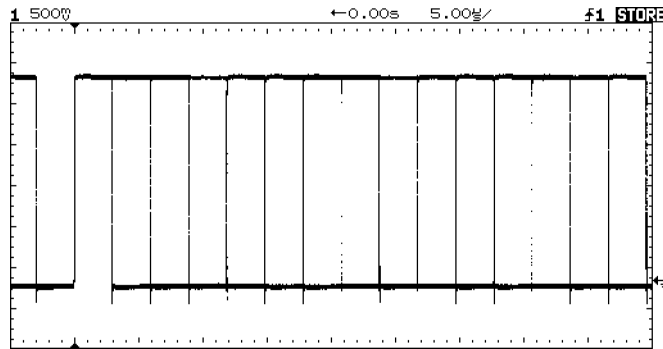
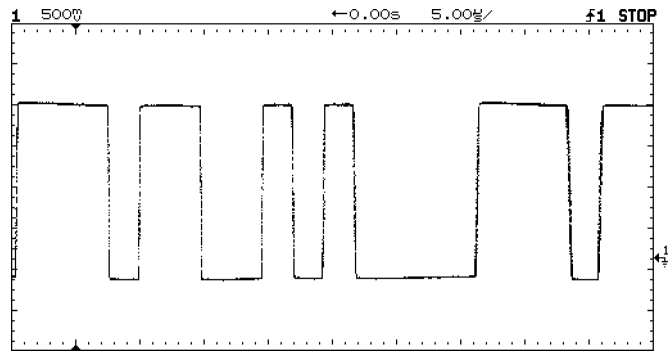

Figure 2-29. Stable trigger, but the waveform is not synchronized with the trigger.
Figure 2-30. Holdoff synchronizes the waveform with the trigger.
The difficulty in viewing a complex waveform is triggering on the signal. Figure 2-29 shows a complex waveform that is not synchronized with the trigger.
3. Adjust the Holdoff knob to synchronize the trigger of the analyzer with the complex waveform. By setting the Holdoff to synchronize the trigger, the analyzer ignores the trigger that results in Figure 2-29 and waits for the trigger that results in Figure 2-30. Also notice, in Figure 2-29, the trigger is stable but the waveform is not synchronized with the trigger.